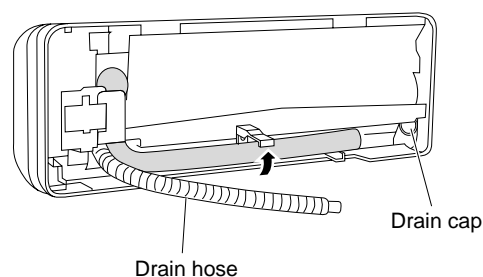

Fig. 27b
- (a) Locate the drain hose and drain cap. (Fig. 27b)
- (b) Remove the drain hose on the right side by pushing and turning the hose connector counter-clockwise to release it. (Fig. 27b)